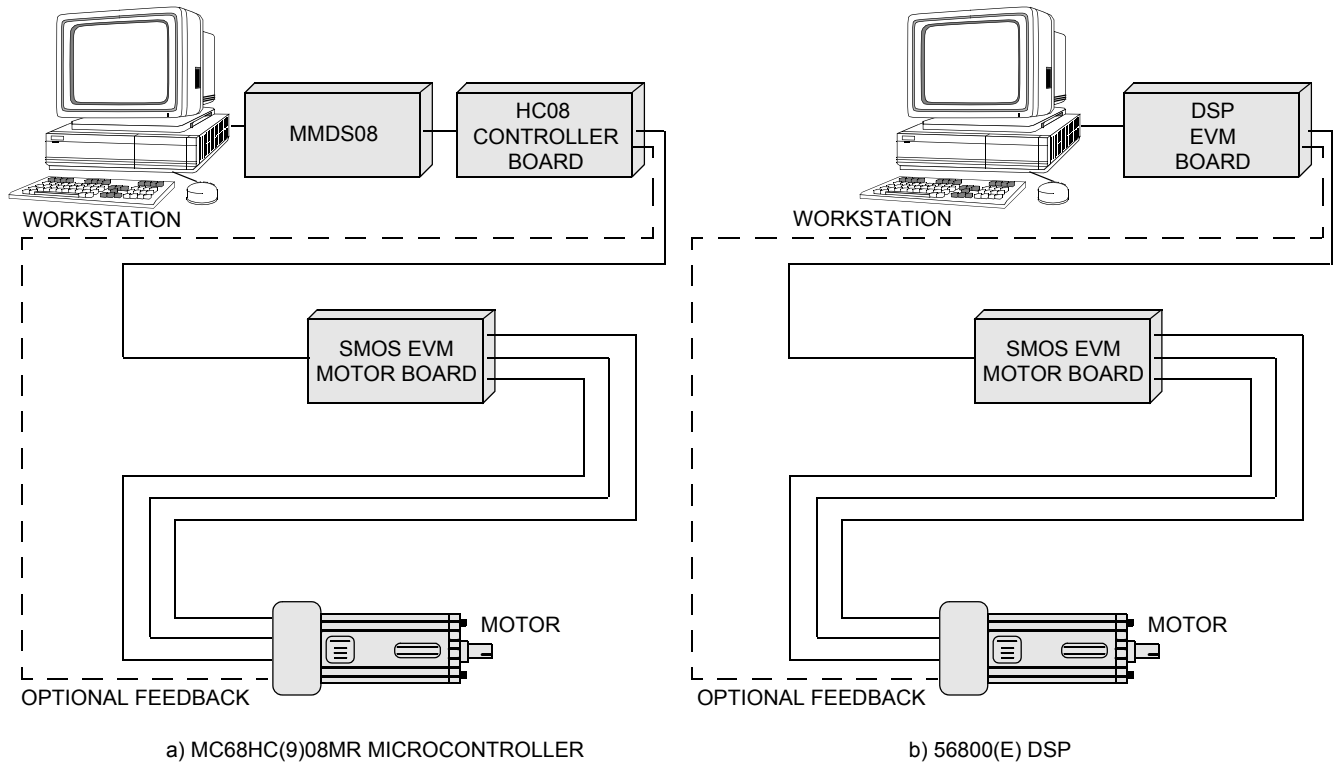
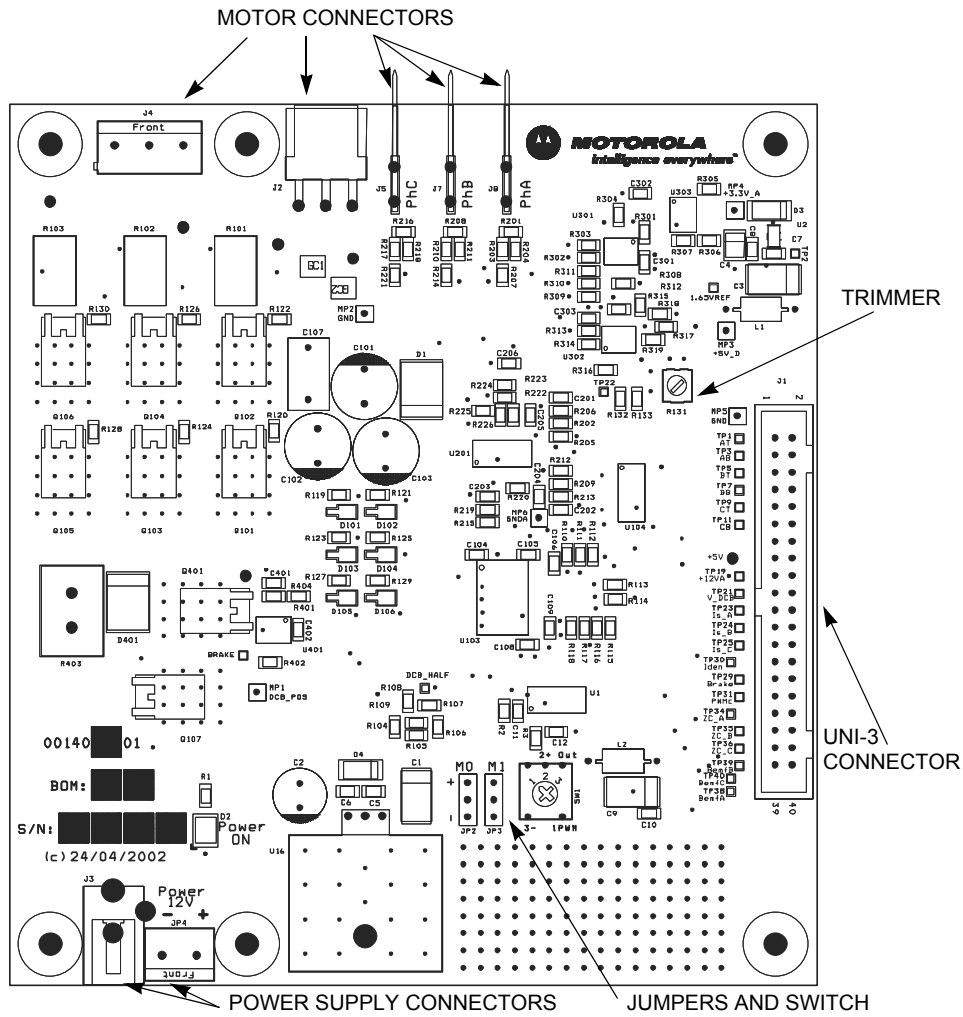

Figure 1-1 System Configurations
Figure 1-2 SMOS EVM Motor Board ver. 140A01
Motorola's SMARTMOS™ 33395 evaluation motor board (SMOS EVM motor board) is a 12-volt, 8-amp power stage that is an integral part of Motorola's embedded motion control series of development tools. It is also supplied as a kit. In combination with one of the embedded motion-control series control or evaluation boards, it provides a ready-made development platform for brushless dc motors. The motor can be controlled using Hall sensors, an optical encoder or sensorless techniques. An illustration of system configurations is shown in Figure 1-1. Figure 1-2 depicts the board layout.
2. Plug one end of the 40-pin ribbon cable that is supplied with Motorola embedded motion control series control boards into input connector J1, located on the right-hand side of the motor board, considering its '*default front view*' position as in **Figure 1-2**. The other end of this cable links to the control board's 40-pin output connector.
NOTE: *Check if the trimmer tagged in **Figure 1-2** is set to <2.45V (between bottom trimmer pin-2, R131 label, and GNDA) which thresholds the dc bus current to 10 amps. The closer its value is set to 1.65V, the smaller the bridge current is that can flow.*
Inputs and outputs are located on six board connectors depicted in **Figure 1-2**: